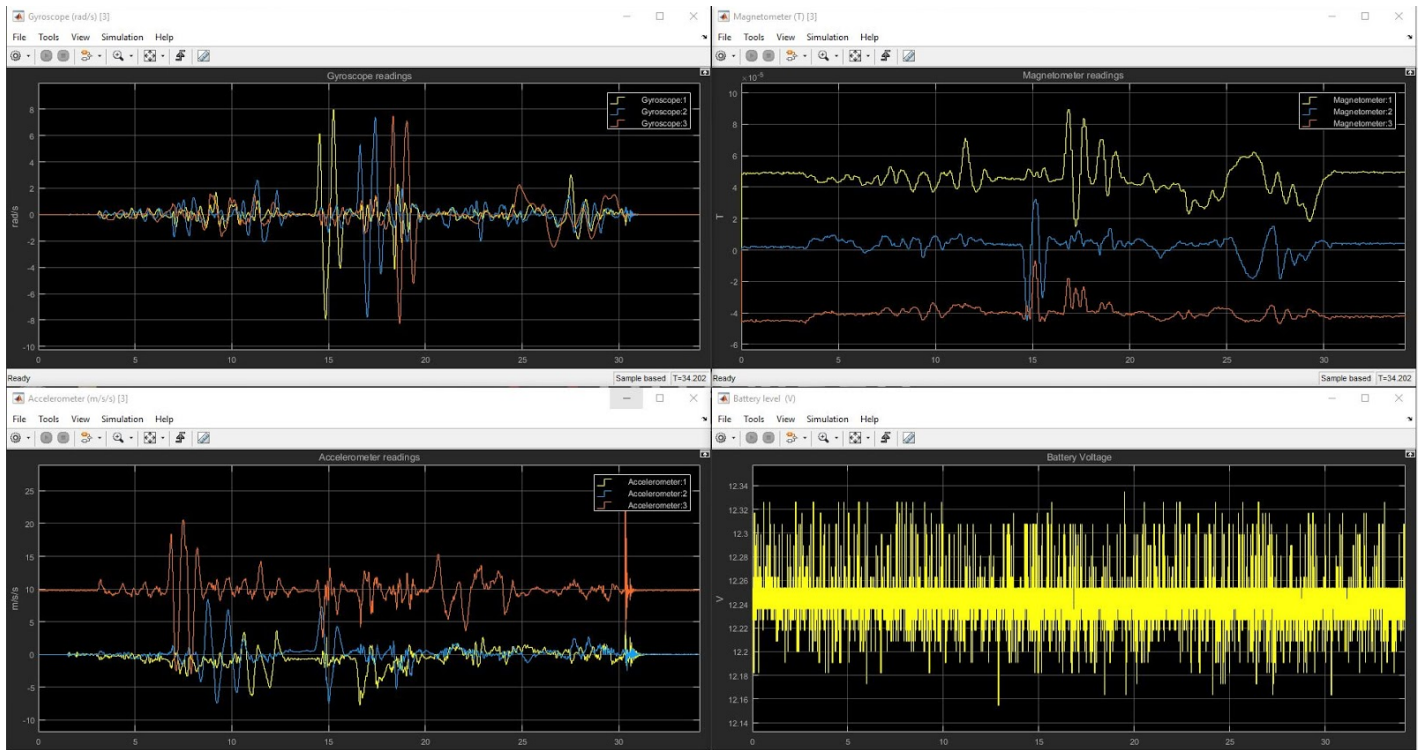

Figure 3: Sensor Data received from the QDrone's IMU
7. Ensure that safety glasses are worn. Enter the workspace and move the drone along the three axis, and rotate it about the 3 axis. The Gyroscope \(rad/s\), Accelerometer \(m/s/s\), Magnetometer \(T\) and Barometer \(Pa\) scopes should display data. Sample data has been shown in Figure 3.
8. The Battery Level \(V\) scope should display the battery voltage, which can be confirmed using the Battery Voltage Tester provided (see Charging Vehicle Batteries in the Research Studio Setup Guide). Sample data has been shown in Figure 3.